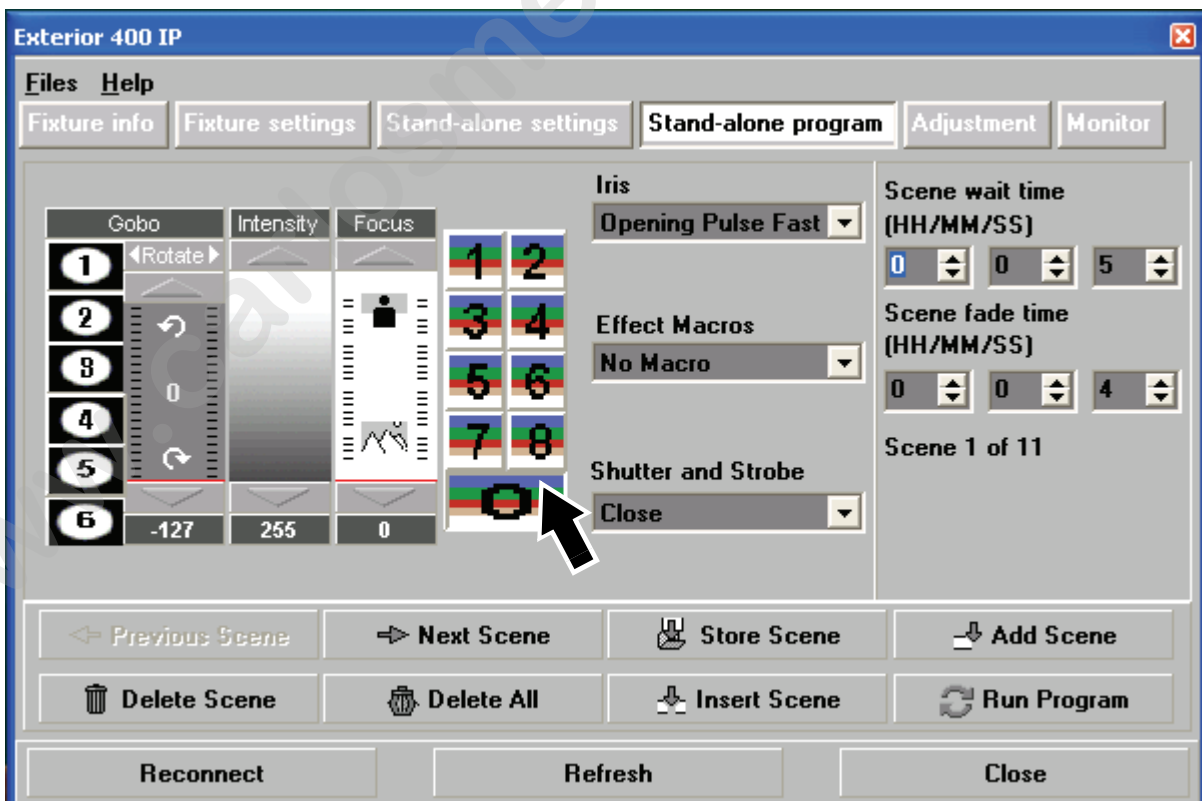

Figure 16: Stand-alone programming window
1. See Figure 16. Click on the **Stand-alone program** button.
Once you have specified values for the effects and fade and wait times for the scene, you can store and manage scenes using the commands available at the bottom of the **Stand-alone program** window (see Figure 16):